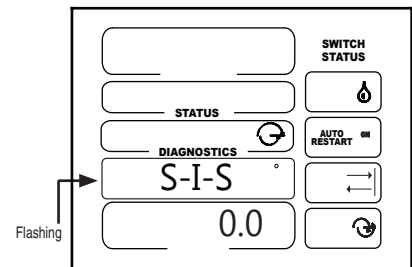

Figure 9-2
Stop-in-slot allows the operator to stop the machine at a set position such as a field road. If the stop in slot feature is on, the machine will stop at this position every time. Range is 0.0° - 359.9° and default is 0°. See figure 9-2.
1. S-I-S should be flashing. See figure 9-2.